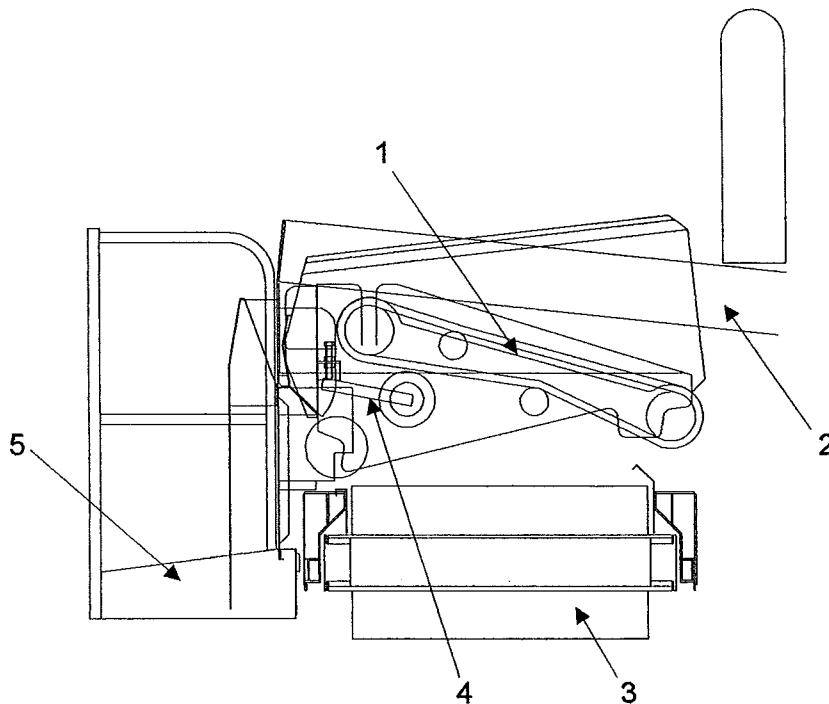

Fig 10.18
A small picking off belt, (Fig 10.18), capable of carrying 2 pickers. Comprising of a belt from which the pickers sort through the crop, and a chute which returns the crop to the cart elevator. The unit is hydraulically driven and can be controlled for speed by a flow control valve. A small electrical control box gives emergency stop facility, communication to the driver and speed control (see section 4 for explanation of these controls). The box has a magnetic foot and can be mounted in a convenient position to the pickers.
Adjustment of the picking off web is by the web adjusters on each side of the table (item 4 Fig 10.18). Ensure that the webs are tensioned evenly on both sides of the table so that the webs run correctly.